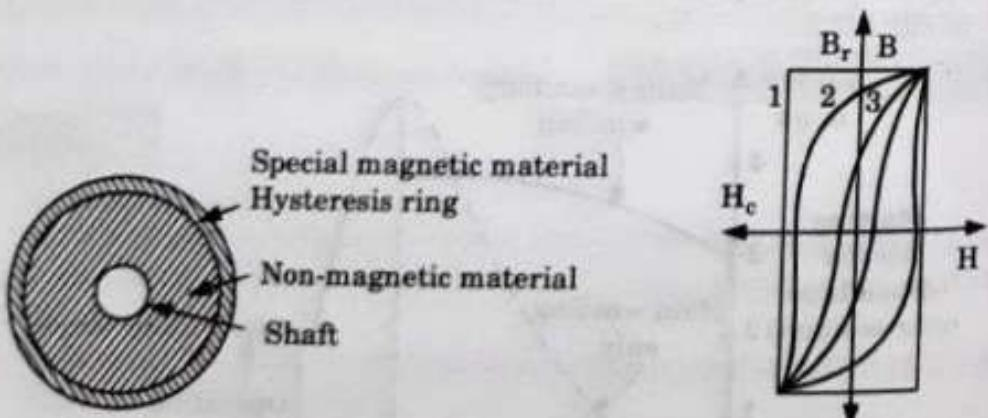

Fig. 5.2.1. Hysteresis motor : (a) Rotor (b) Characteristics.
1. Fig. 5.2.1 shows the rotor of a hysteresis motor. It consists of core of aluminium or some other non-magnetic material which carries a layer of special magnetic material.
3. The ring is made of special magnetic material such as magnetically hard chrome or cobalt steel having very large hysteresis loop as shown in Fig. 5.2.1.